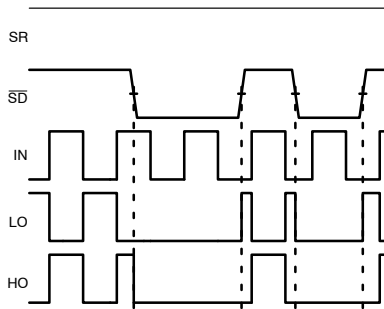

Figure 37. Shutdown with SR Pin Pulled Up
11. Turn-off propagation applies to \overline{SD} pin. See Figure 37 for timing definitions.
When the SR pin is kept pulled up as shown in Figure 37, the \overline{SD} pin operates like an Enable pin. With the SR pin in a pulled up state: